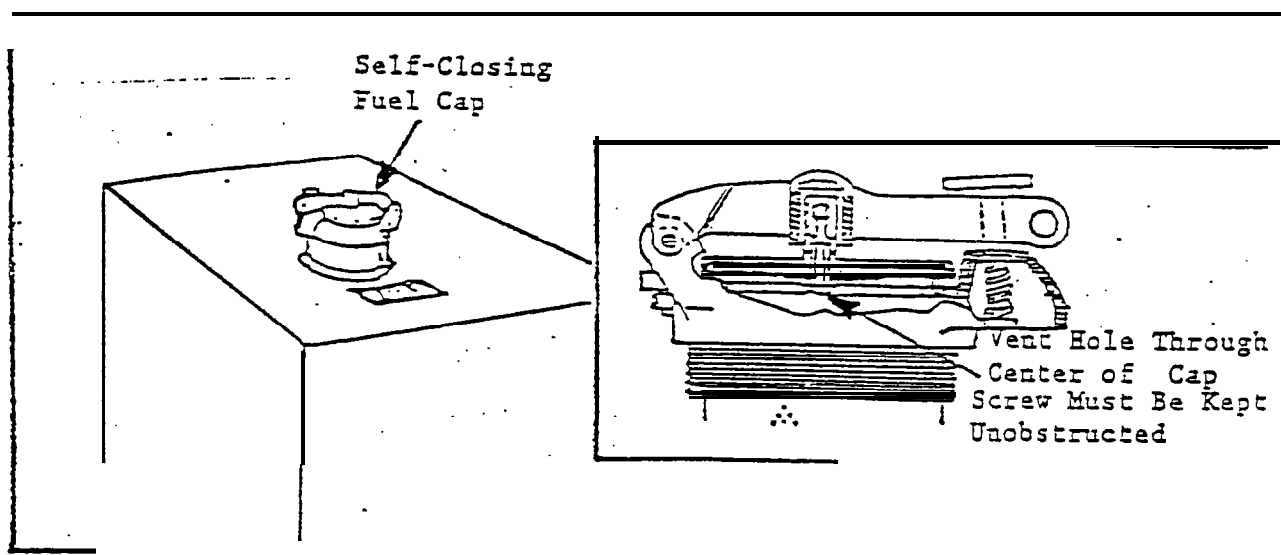

Figure 1
(WEEKLY) 2. () The fuel filler cap (1)* is vented and the vent is not plugged (see Figure 1).